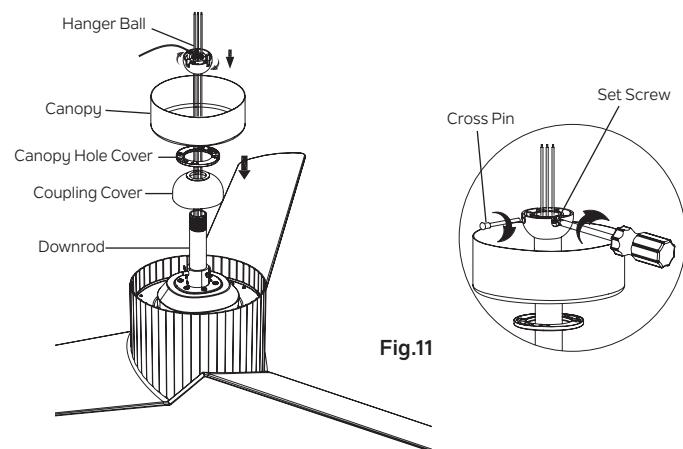

Fig.11
**Step 5.** Slip the coupling cover, canopy hole cover and canopy onto the downrod. Carefully reinstall the hanger ball onto the downrod. Make sure the cross pin is in the correct position and the set screw is tight and the wires are not twisted . ( Fig. 11)